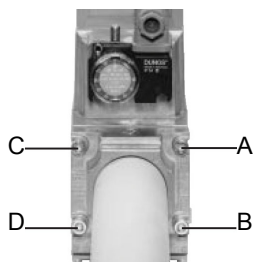
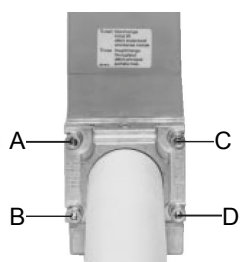

Fig. 11
Fig. 12
1. Loosen screws A and B **do not** unscrew (Fig. 11 - Fig. 12).
2. unscrew screws C and D (Fig. 11 - Fig. 12).
3. Remove MultiBloc between the threaded flanges (Fig. 12).